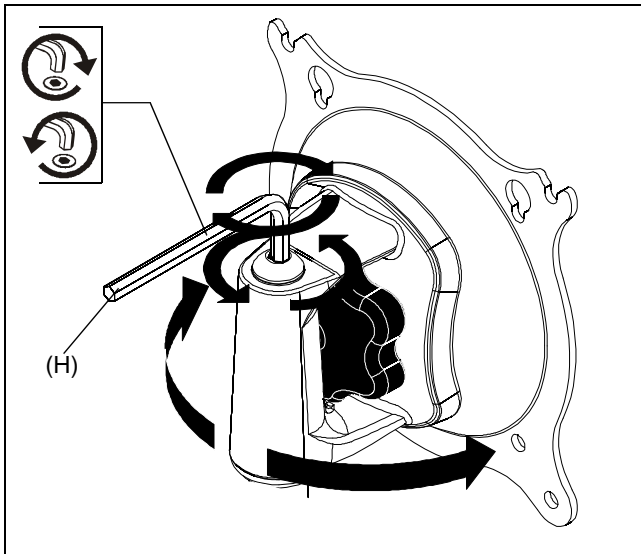

Figure 10
1. Using hex wrench provided (H), turn adjustment screw clockwise to increase tension or counter-clockwise to decrease tension. (See Figure 10)